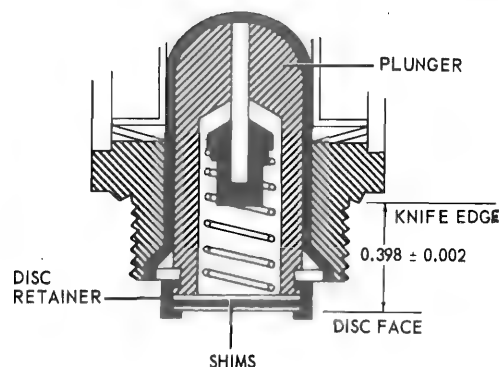

Figure 10-18. Distance of Stem Above Plunger
a. Place plunger stem assembly (7) in plunger shell and make sure there is no binding between the two parts.
b. Install plunger spring (6), plunger shims (4), and disc (5) with disc retainer (3).
c. Before crimping disc retainer (3), check dimension shown in figure 10-18, which should be between 0.396 and 0.400 inch, with plunger fully
inserted. If this dimension is not within these limits, remove or add shims between disc and lower end of plunger shell until the correct dimension has been established. When the dimension shown in figure 10-18 has been established, crimp disc retainer (3) carefully into groove at lower end of plunger shell to hold all plunger parts in place.
e. Clamp valve body and screen assembly (8) in a soft-jawed vise and screw solenoid assembly (2), with plunger in place, into valve body and screen assembly. Tighten securely with an open-end wrench.